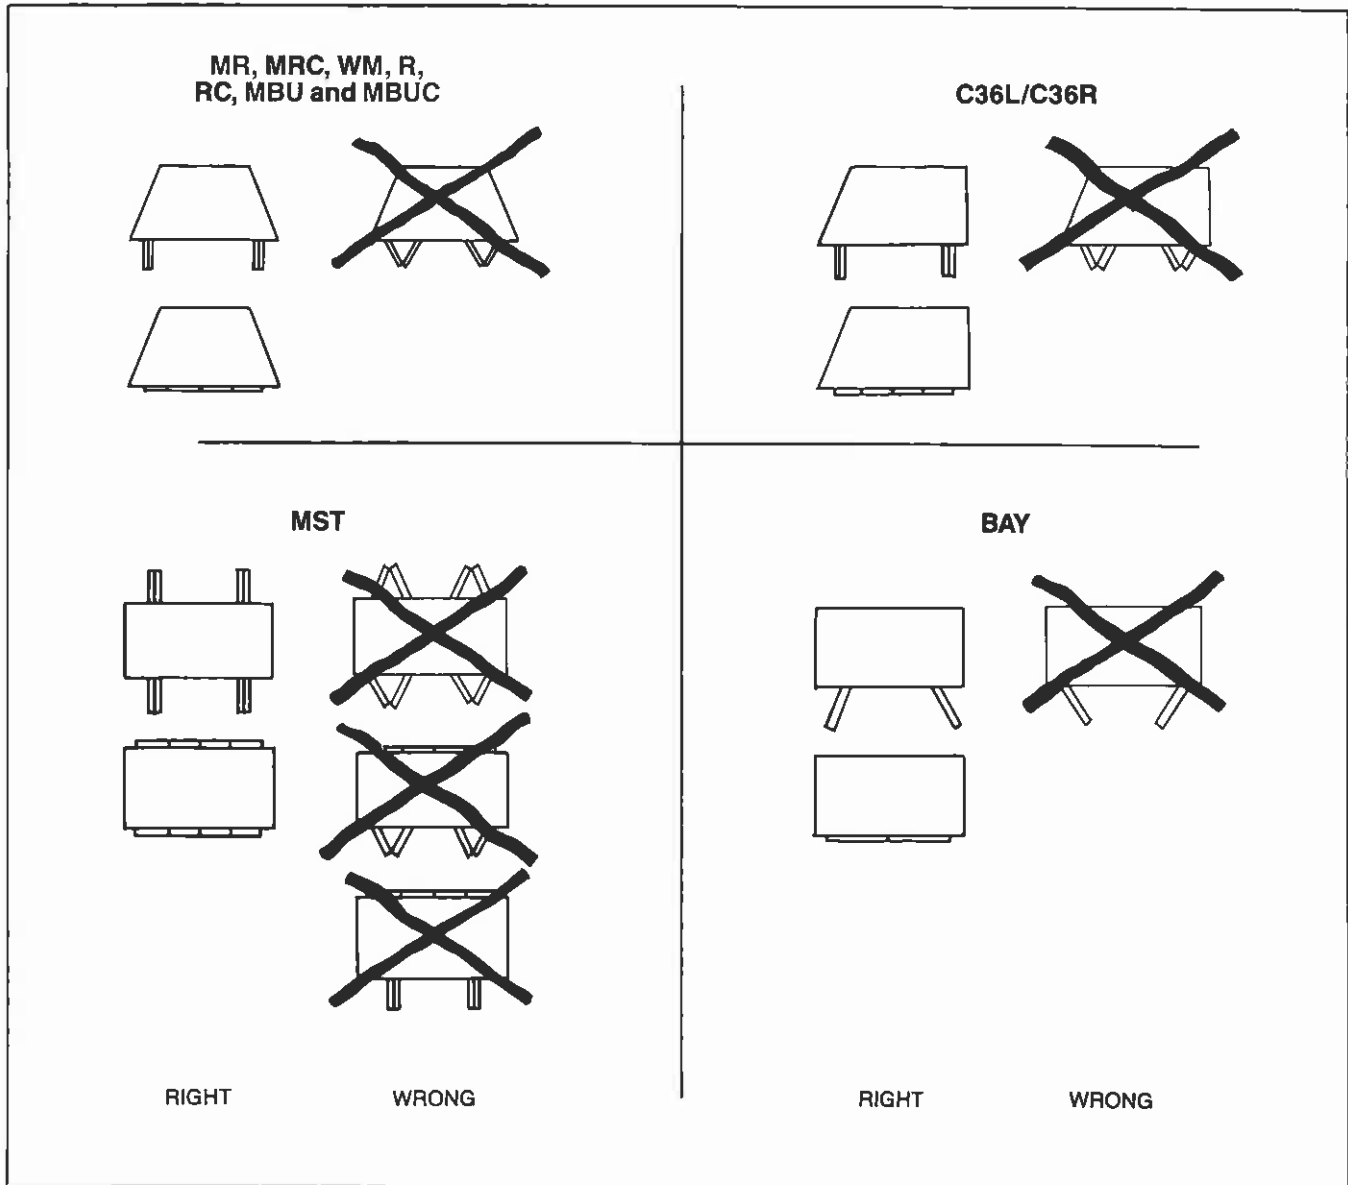

Fig. 15. Top view glass door position.
**WARNING: FIREPLACES EQUIPPED WITH DOORS SHOULD BE OPERATED WITH DOORS FULLY OPEN OR DOORS FULLY CLOSED. IF DOORS ARE LEFT PARTLY OPEN, GAS AND FLAME MAY BE DRAWN OUT OF THE FIREPLACE OPENING, CREATING RISKS OF BOTH FIRE AND SMOKE. See Fig. 15 for correct door positions.**